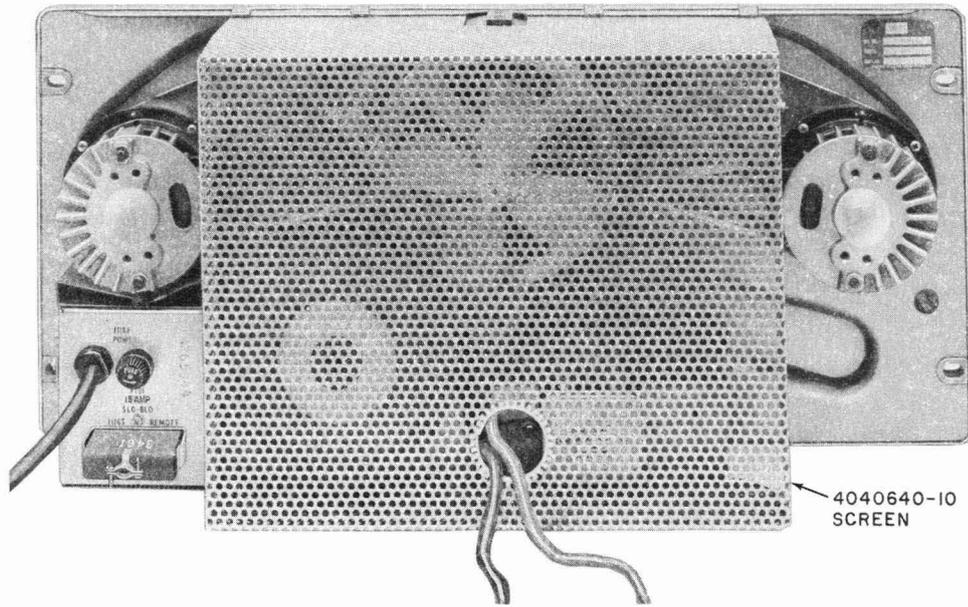

Fig. 2 — KS-19124 L2 Record-Reproduce Mechanism — Rear View
3.04 The screen (Fig. 2) covering drive motor and capstan assemblies must be in place at all times except when removal is necessary for the performance of maintenance operations. Make sure, upon completion of maintenance operations, that the screen is reinstalled before record-reproduce mechanism is put in operation.